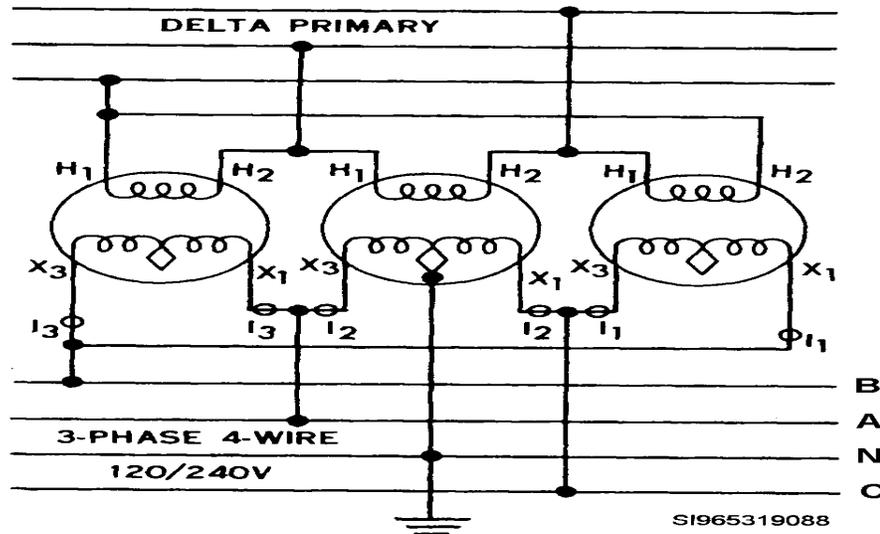

Figure 5, Delta/Delta for Lights and Power
Step 8: Primary Connection for a delta / delta as seen in Figure 5 above.
Step 9: Secondary Connection for a delta / delta as seen in Figure 5 above.